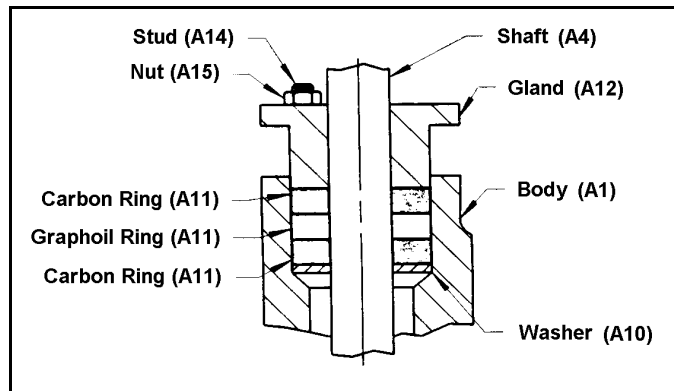

Figure 6—Packing Option G1
- Place the packing in the body, one ring at a time, in the configuration shown in Figure 6. Do not lubricate.